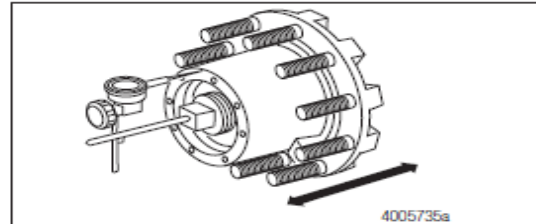

Figure 1
If the keeper teeth are correctly installed and the keeper is seated in the groove as shown in Figure 1: Proceed to Wheel Bearing Adjustment and Pro-Torq® Keeper Installation Procedure, Step 16.
- Measure the wheel end play. Attach a dial indicator to the hub and place the pointer of the dial indicator on the spindle. Without rotating the rotor, push inward and ZERO the indicator, then pull outward on the rotor and record the reading. Refer to MM 23A, section 5, page 44, Step 10 A through D only. Allowable end play is 0.001-0.005" (0.0254-0.127 mm). Figure 1.